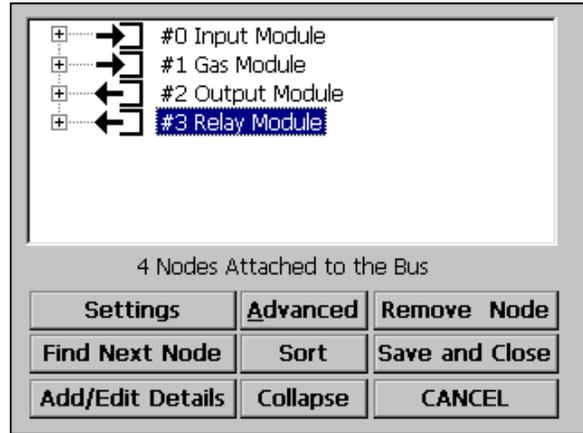

FIGURE 5.5 All four node channels collapsed.
13. Figure 5.5 shows 4 nodes that have been selected for illustration purposes.
Each node contains fields that allow data to be entered to identify the unique characteristics such as location and other pertinent data. Figure 5.5 shows the four nodes we searched and their names appear. These names can be edited but the ID is fixed.